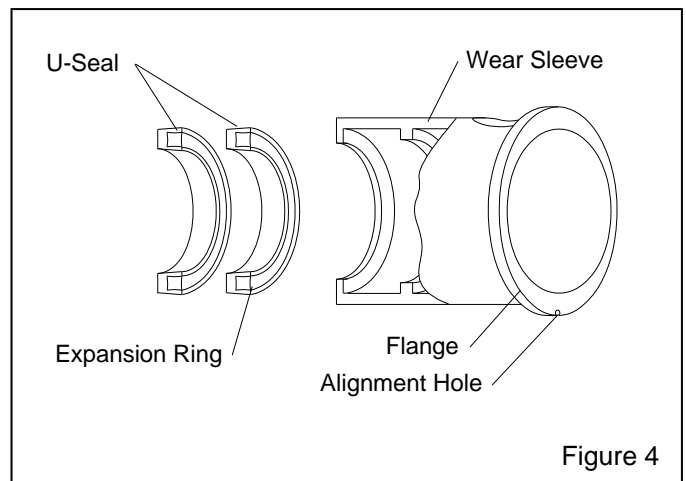

Figure 4
**4.4.6** Put new u-seals in the wear sleeve as shown in Figure 4. The seal closest to the flange goes in first, with the seal expansion ring facing the flange. The second u-seal is placed next to the first with the ring also facing the flange.